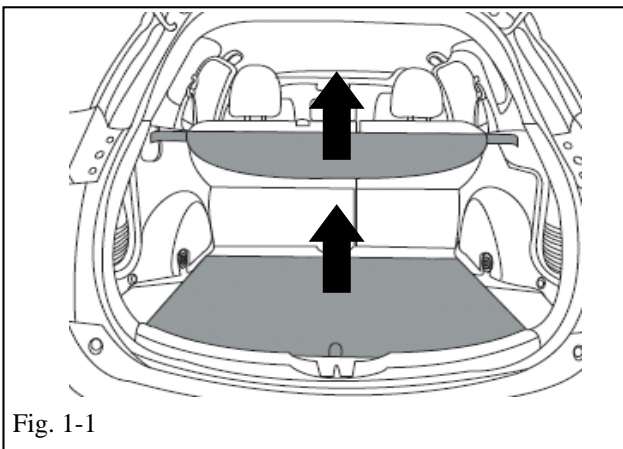

Fig. 1-1
- (a) Remove the tonneau cover and lift out the trunk floor panel (Fig. 1-1).